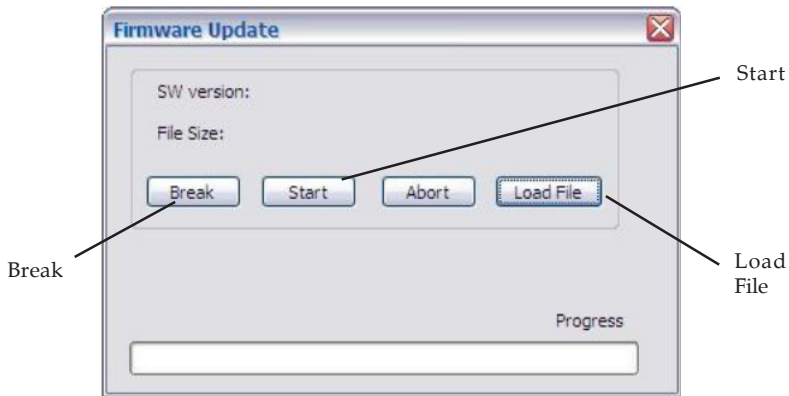

Figure 13
4. At the **Device Setting** window, select **RS232**, then click **Read From Device**. See Figure 13.